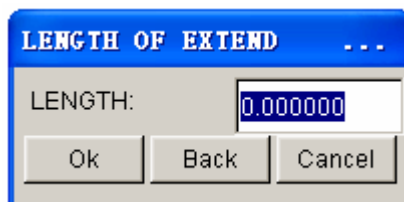

Figure 5.1.10 Length of Extend dialog box
- Enter a real number as the extended length in the Length of Extend dialog box as illustrated in Figure 5.1.10.